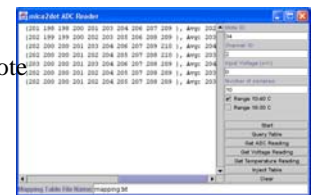

Fig. 3 ADC / Temperature Reader Application
- Measured ADC reading for range 0.3 – 3.0V with interval 0.3V (Fig. 3).